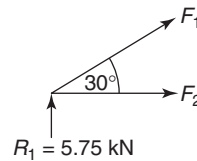

Figure 4.35
Consider joint (1); see Figure 4.35.